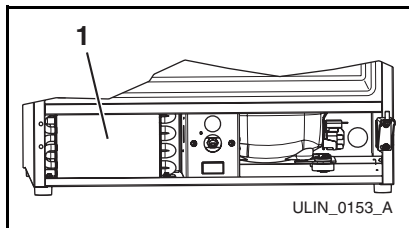

Figure 9
5. Clean the condenser coil (**Figure 9, 1**) using a soft brush with a "combing" action or vacuum cleaner. Do not touch the condenser coil.